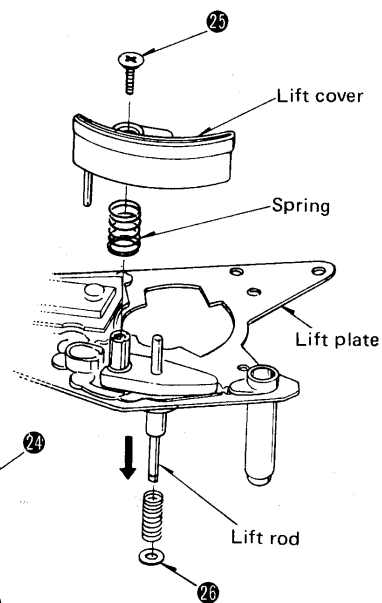

Fig. 12
3. Remove the setscrew [Fig. 12: 25] of the arm lift cover.
4. Remove the washer [Fig. 12: 26] from the arm lift rod.